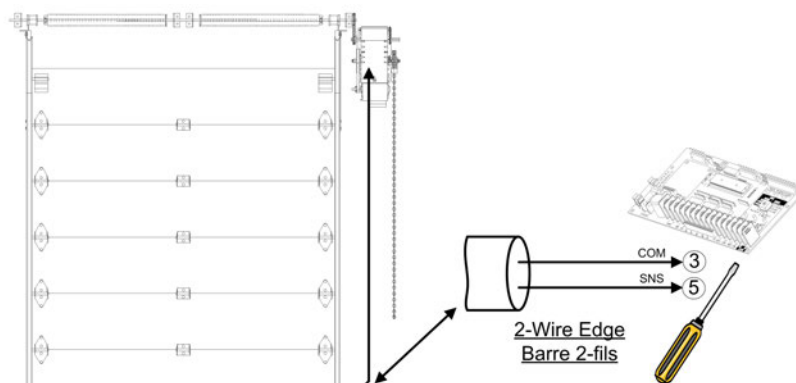

Figure 16 - Electric Reversing Edge
3. Use a coil cord or take-up reel to connect the sensing edge wires to the operator terminals. Install electric wires according to Figure 16.